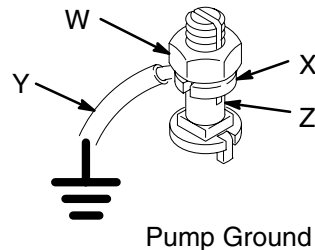

Fig. 2 0864
1. **Ram Pumps:** check ground wire and clamp. See Fig. 2. To install, loosen grounding lug locknut (W) and washer (X). Insert one end of 1.5 mm² (12 ga) minimum ground wire (Y) into slot in lug (Z) and tighten locknut securely. Connect other end of wire to true earth ground.